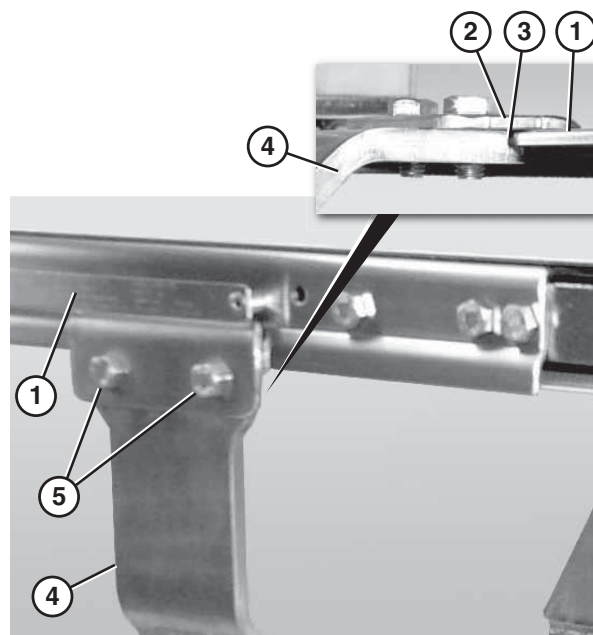

Figure 4
Make sure the conveyor (Figure 4, item 1) is seated between the clamp plate (Figure 4, item 2) and the lip (Figure 4, item 3) at the top of the stand (Figure 4, item 4) before tightening the clamp plate screws (Figure 4, item 5).
3. Attach the stand (Figure 4, item 4) to the conveyor (Figure 4, item 1) and tighten the four screws (Figure 4, item 5) to 80 in•lb (9 N•m).